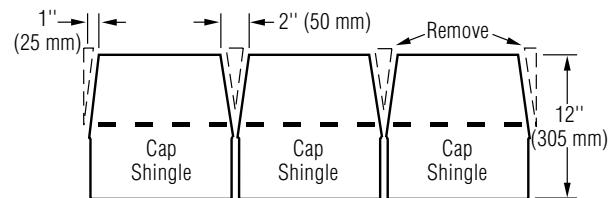

Figure 12-24: Cut tabs, then trim back to make cap shingles (English dimensions shown).
2. Make the caps by cutting full-length shingles at the tab cutouts. Trim the back end of the caps as shown in Figure 12-24.